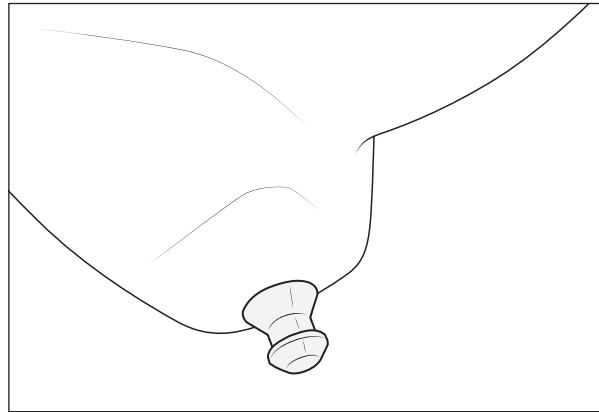

Figure 9
- E. Attach Insulator Pin to AEV lower air box (fig. 9).